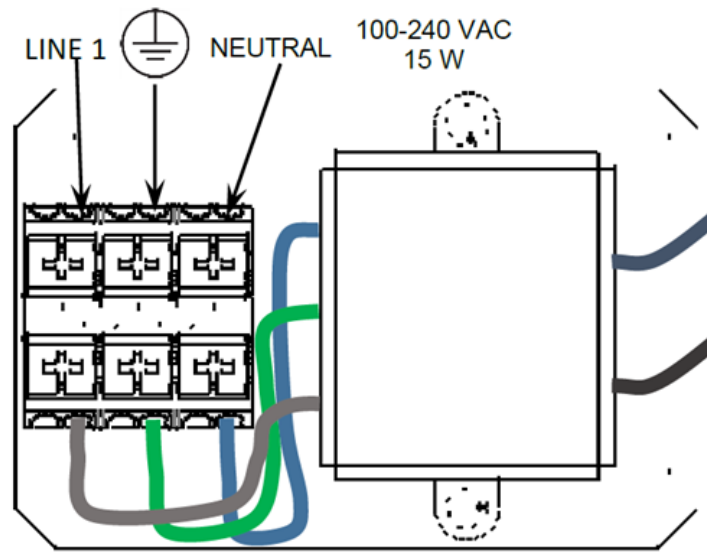

Figure 8 Multi-Zone AC Input Power Connections
3. Insert the incoming AC power neutral (white), earth ground, and live (black) wires to the Neutral (N) earth ground, and LINE 1 (L1) terminal locations as shown in Figure 8.